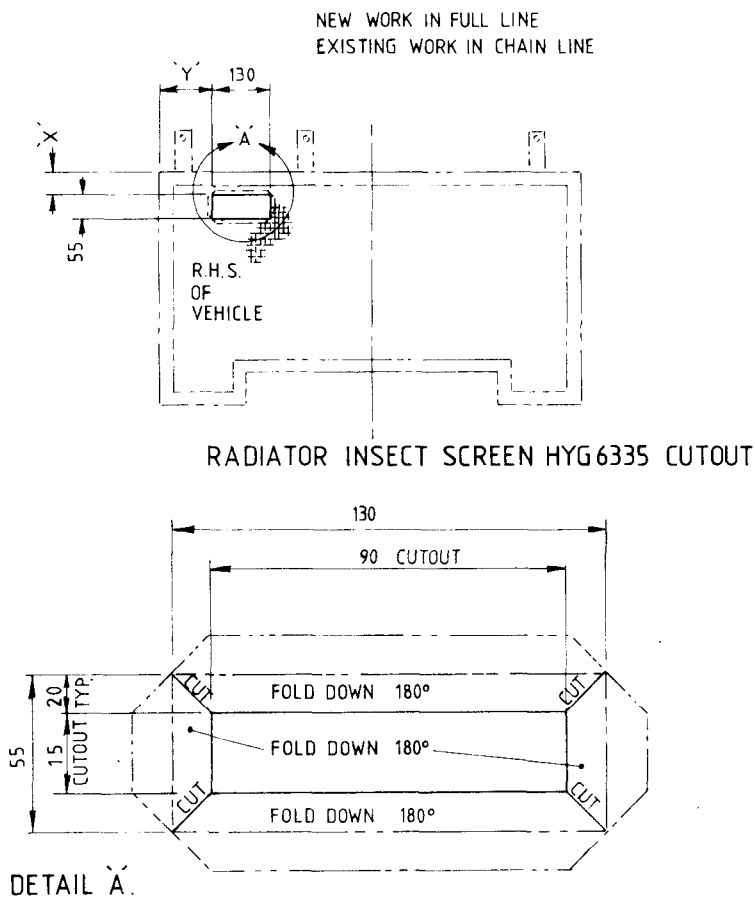

FIG 5 - INSECT SCREEN
- q. Rework insect screen on RFSV and LRPV as shown in Fig 5.